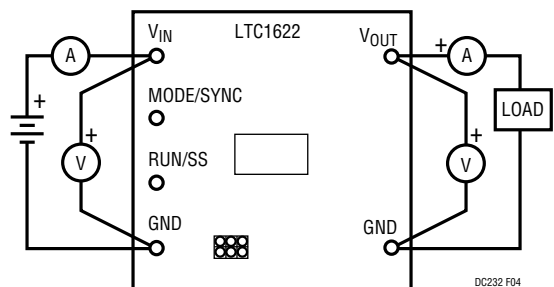

Figure 4. Correct Measurement Setup
6. Connect the load between the V_{OUT} and GND terminals. Refer to Figure 4 for proper measurement equipment setup.
When measuring voltage regulation, all measurements must be taken at the point of regulation. This point is where the LTC1622 control loop looks for the information to keep the output voltage constant. This information occurs between Pin 3 and Pin 6 of the LTC1622. For output voltages other than 0.8V, the voltage at Pin 3 can be adjusted by the resistor divider network. These points correspond to the output terminals of the demonstration board. Test leads should be attached to these terminals and the load should be attached as close to these terminals as possible. This applies to line regulation (input-to-output voltage regulation) as well as load regulation tests. In performing line regulation tests, always look at the input voltage across the input terminals. Refer to Figure 4 for proper monitoring equipment configuration.